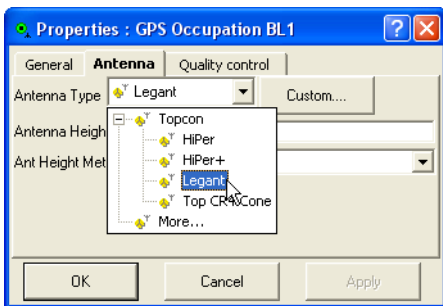

Figure 3-6. Select Antenna Type
3. Click the *Antenna* tab, select the antenna type from the drop-down entry box in the *Antenna Type* field (Figure 3-6 on page 26), and click **OK**.